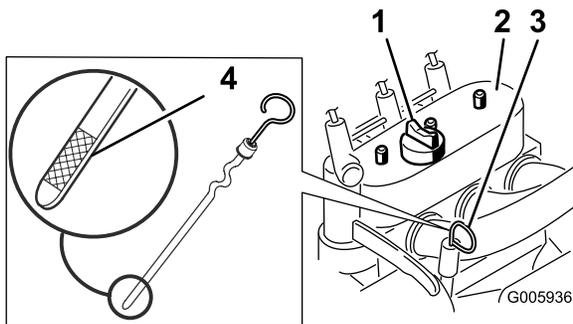

Figure 14
4. Clean around the oil dipstick (Figure 14).
5. Pull out the dipstick and wipe the metal end clean (Figure 14).
6. Slide the dipstick fully into the dipstick tube (Figure 14).
8. If the oil level is low, clean around the oil filler cap and remove the cap (Figure 14).